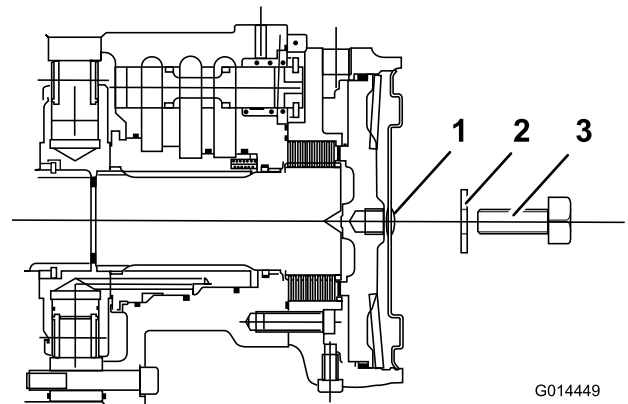

Figure 36
4. Install a M12 x 40 mm long setscrew with washer into the hole in the center of the motor end plate (**Figure 36**).
5. Tighten the setscrew into the threaded hole in the brake piston until the brake is released (Figure 36).
6. Identify the left front wheel motor disc brake assembly and repeat the previous procedure (Figure 36).